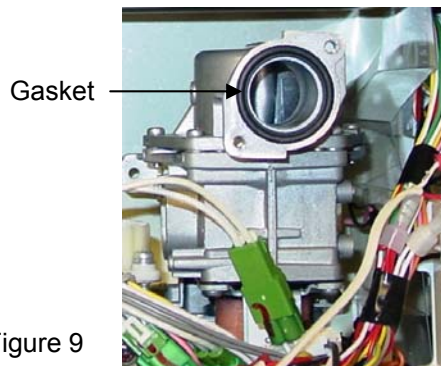
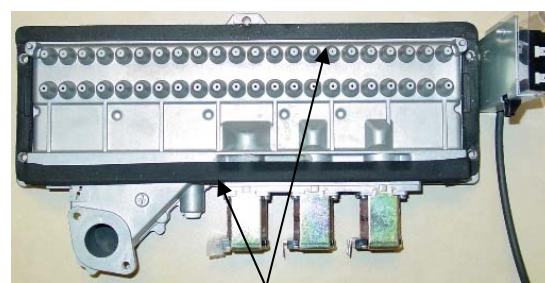

Figure 9
Figure 10 Gaskets
25. Make sure that the black gasket (Figure 9) is intact on the gas control assembly. Make sure that the ribbed side faces toward the manifold and that the flat side faces toward the gas valve. Replace the lower and upper gaskets (included in kit) for the manifold plate removing any residue. (Figure 10)